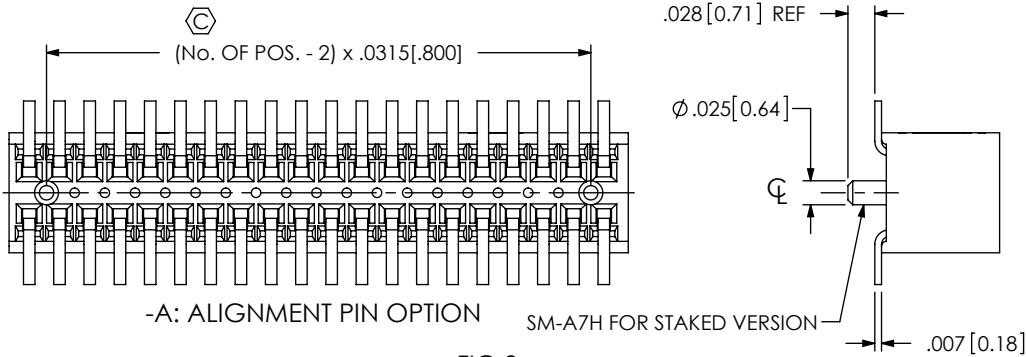

FIG 3
- A: ALIGNMENT PIN (SEE FIG 3 & 4, SHT 2)